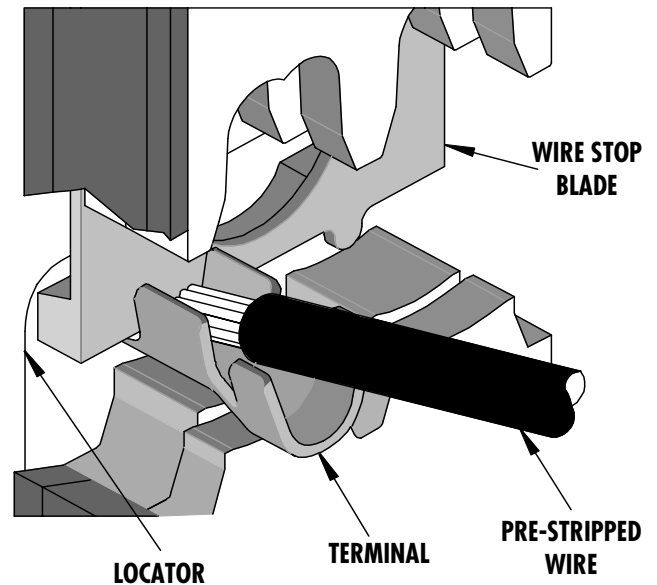
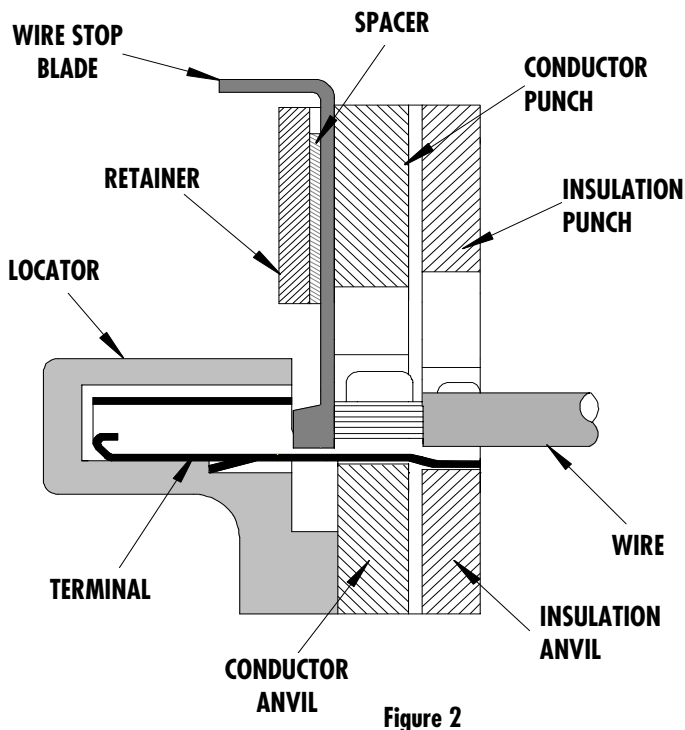

Figure 1
Figure 2
4. Slide the pre-stripped wire into the terminal; make sure to aim the wire brush towards the tip point on the wire stop blade (See Figure 1). Align the wire so that it is parallel and sitting into the terminal. Maintain a light and constant pressure on the wire that is seated in the terminal at all times. (Do not let go of the wire.) Be sure to hold the wire and terminal in place until the terminal is fully crimped. (See Figure 2).